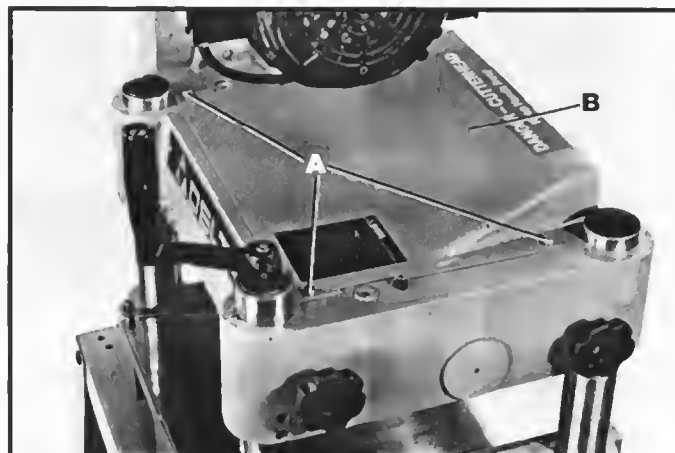

Fig. 26
2. Remove the four screws, three of which are shown at (A) Fig. 26, and remove the top cover plate (B).